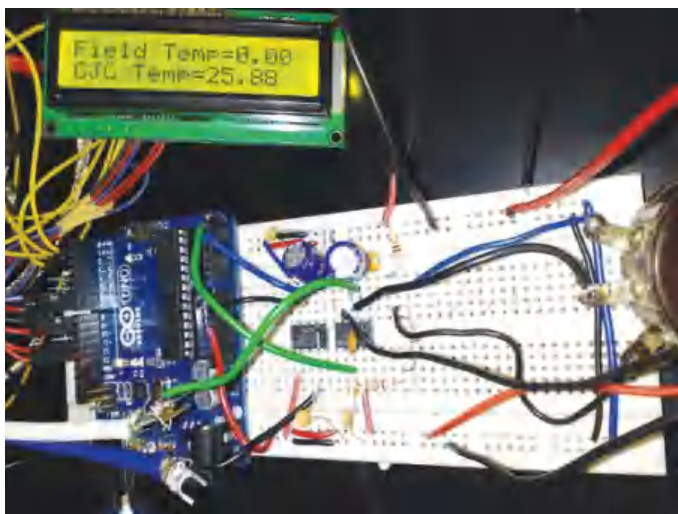

Fig. 6: Prototype on breadboard
1. Power on Arduino UNO board. You can view the LCD displays: Field Temp in the first row and CJC Temp in second as shown in Fig. 6. Here, CJC value, which is 25.88, is the room temperature in degree centigrade.